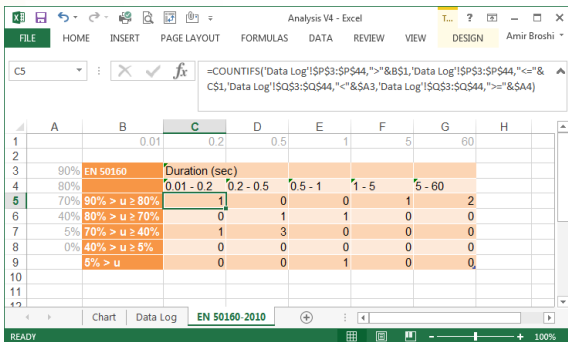
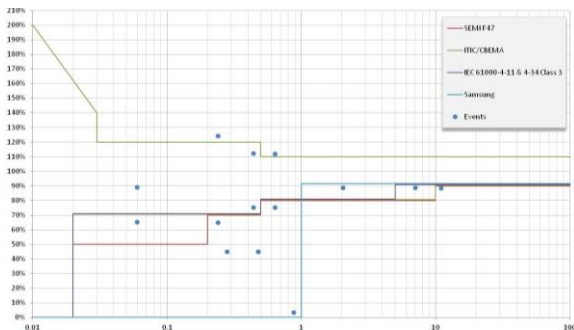

Figure 4: Sag/Interruption EN50160 Classification
Figure 5: Sag/Swell/Interruption Chart
9. The results were classified according to EN50160 cells (Figure 4) and plotted using Excel standard XY scatter chart, together with the various sag/swell standards – CBEMA/ITIC, SEMI F47, IEC 61000-4-11, IEC 61000-4-34 and Samsung Power Vaccine (Figure 5).